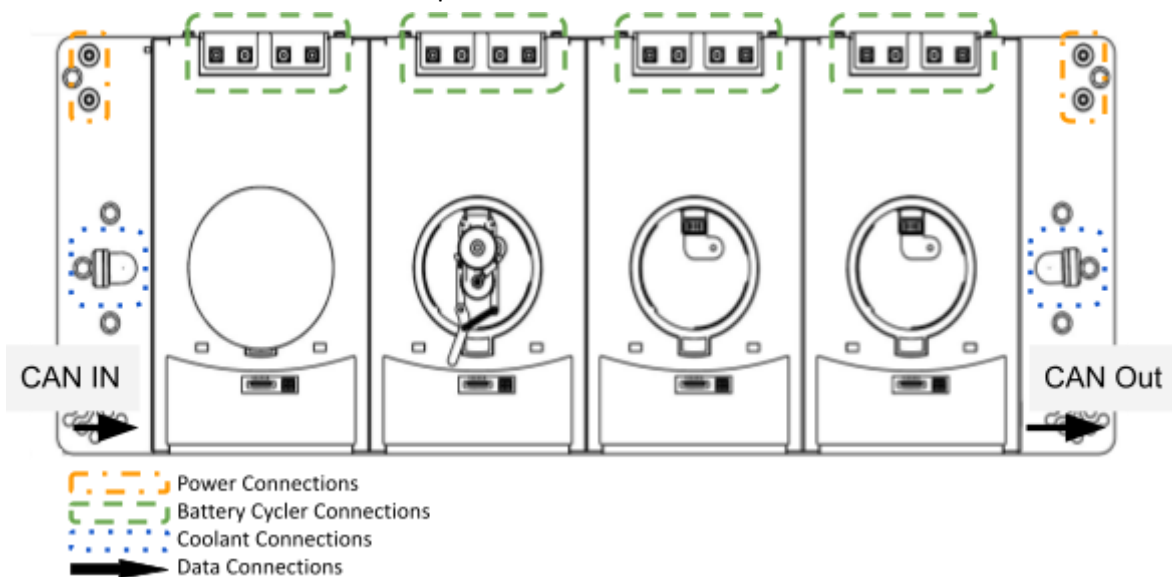

Figure 13: Location of all CellPod Quad input and output connections.
3. Attach the PCAN to the control PC, then connect the left hand RJ45 of the first Quad to the PCAN with the PCAN cable. Then attach further Quads using ethernet cables. See Figure 13.
Once the CellPod Quad is set up on an appropriate surface in accordance with Section 9.1, the user should connect the system to coolant, power and data, and connect their battery cycler to each CellPod. Figure 13 shows the location of each connection. Sections 9.2.1-9.2.4 detail how each connection should be made and the specification of all cables and hoses.
Once the CellPod Quad is set up, coolant connections should be made. The locations of each connection is shown in Figure 13. The following connections should be made;
Once the CellPod Quad coolant connections have been made, power connections should be made. The locations of each connection is shown in Figure 13. The following connections should be made;
Once connections to power and data have been made, the user should connect the battery cycler to the connections indicated in Figure 13 for each pod. The following connections should be made;